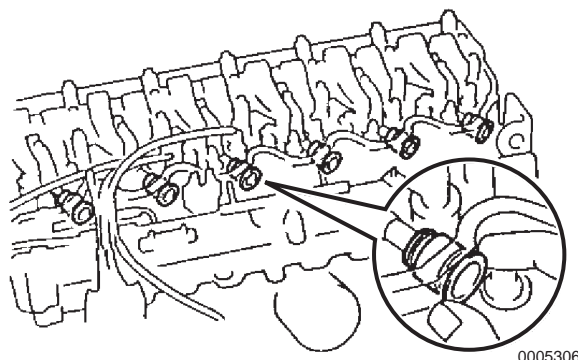

Figure 6-43
- Install a new nozzle holder seal to the cylinder head **(Figure 6-43)**.